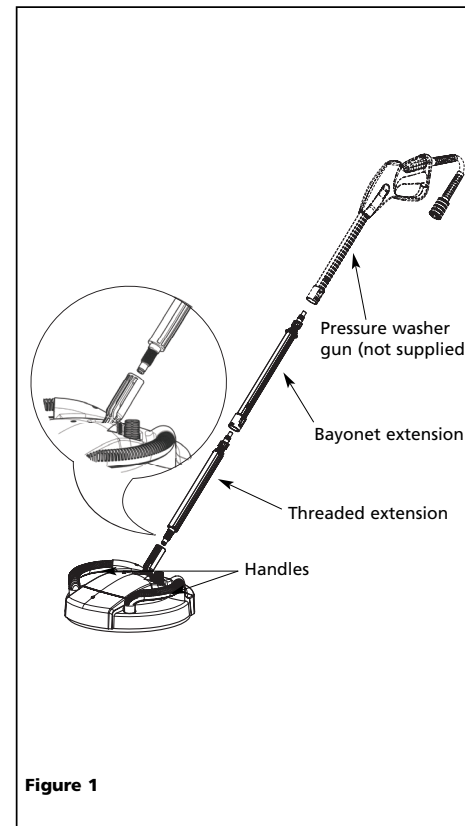

Figure 1
1. Attach threaded extension into surface cleaner base. **Do not overtighten.** Base should rotate easily around extension as shown in Figure 1.
2. Attach bayonet extension to first extension and base. Slide bayonet fitting into extension receptacle. Turn clockwise, as shown in Figure 1.
3. Attach to pressure washer gun as shown in Figure 1.